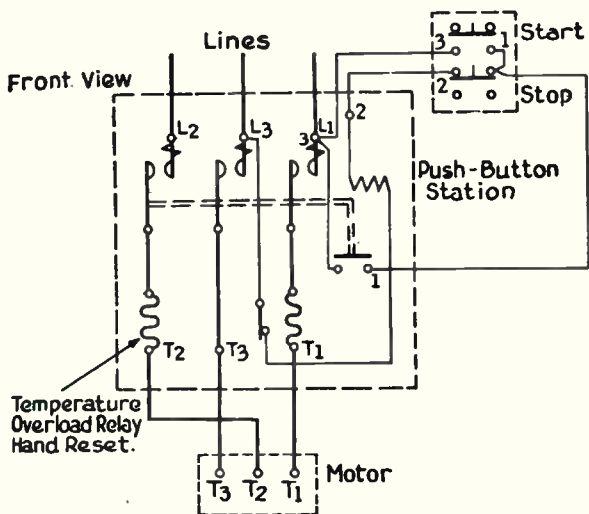

Fig. 16-26
**Fig. 16-26.** Magnetic starter for 3-phase 3-wire motors. For 2-phase 3-wire circuit both phases of line are connected to L-3, and T-3 is connected to both phases or to common of motor. For 2-phase 4-wire circuit one phase of line is connected to L1 and L3. The other phase of the line has one lead connected to L2, with the other lead of this phase run directly to a motor terminal, not through the starter. One motor phase connects to T1 and T3, with T2 connected to
**Fig. 16-34.** Speed-regulating rheostat for wound rotor motor. The CR-7006 switch, interlocked with the rheostat, is a magnetic switch for the primary or stator of the motor. It is actuated by the push-button station similarly to the switch of Fig. 16-26. (General Electric diagram).